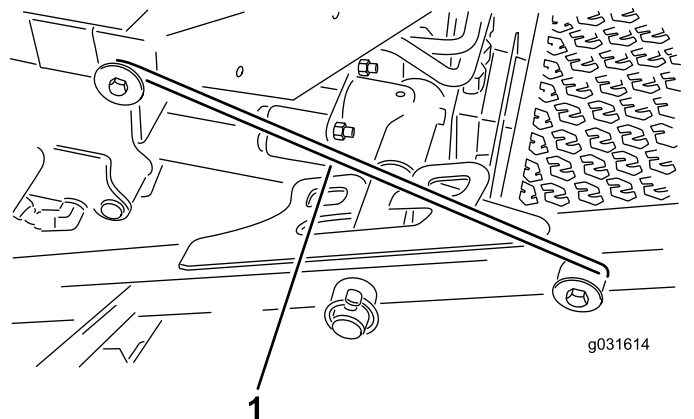

Figure 32
4. Release the latch rod from the front carrier-frame retainer (Figure 32).
5. Lift the outside of the front cutting units and place the latch over the frame pin mounted on the front of the operator's platform (Figure 32).